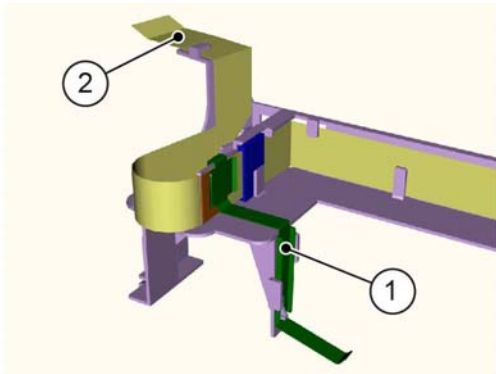

Figure 10 FFC cable removal
12. Remove the FFC cable, **Figure 10**:
- a. Remove the FFC conductor (1).
- b. Remove the FFC cable (2).